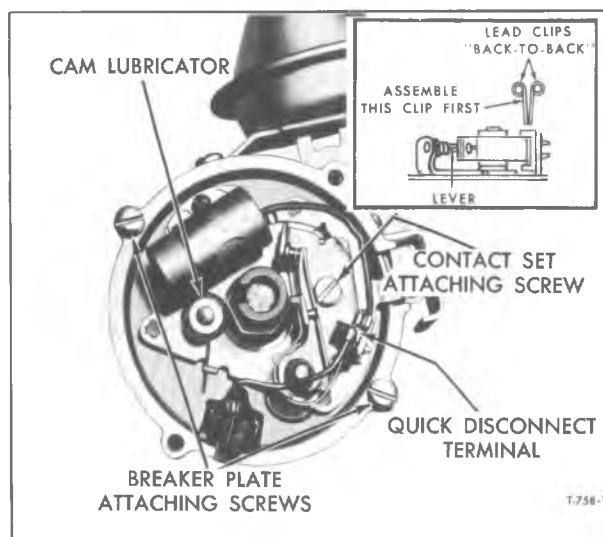

Figure 5—Breaker Plate Attaching Parts
3. Pull primary and condenser lead wires from contact point quick-disconnect terminal (fig. 5).
2. Connect primary lead and condenser lead to terminals (fig. 5). Lead clips must be assembled "back-to-back." Push clip nearest the contact lever down between the spring and locator; then push the remaining clip down between the first clip and locator. Do not push on the spring.